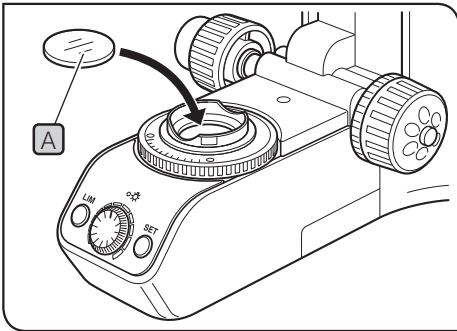

Fig.13
**3 Using the filters (halogen bulb operation only) (Figs.13 to 17)**
- Place a filter on the filter mount on the base and engage in the light path. (Fig.13)
**Mounting a single filter (Fig.13)**